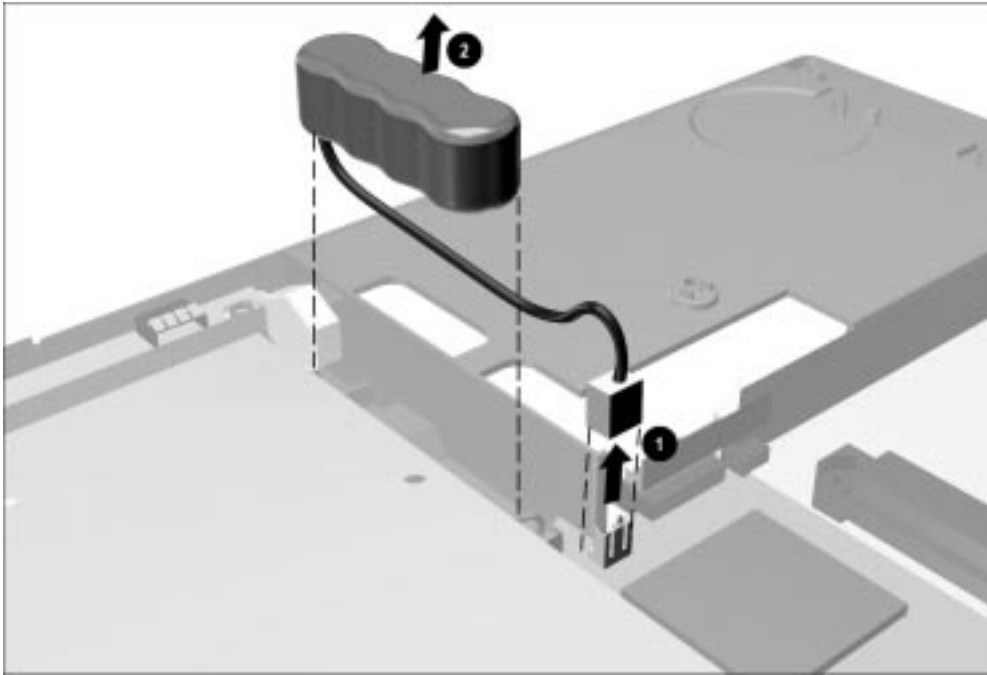

Figure 5-25. Removing the Auxiliary Battery
3. Use the connector removal tool to disconnect the auxiliary battery cable from the system board ❶ (Figure 5-25).
4. Lift and remove the auxiliary battery ❷.